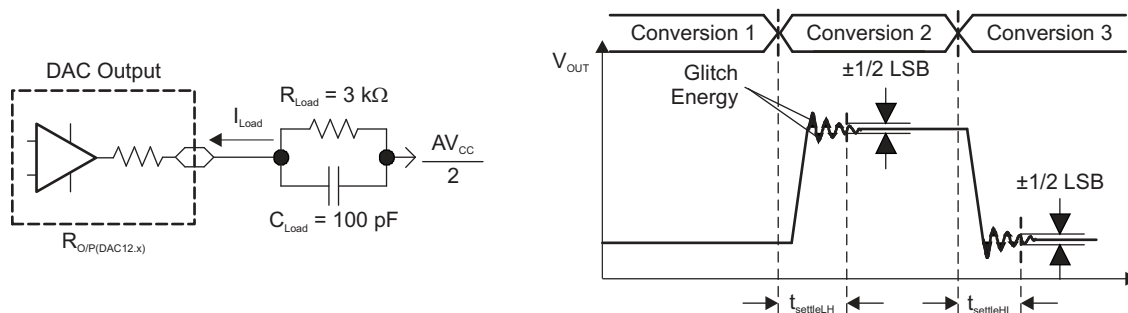
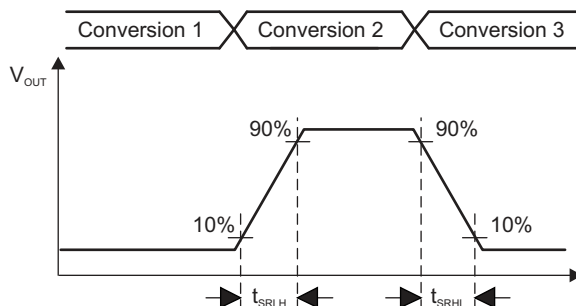

Figure 5-19. Settling Time and Glitch Energy Testing
Figure 5-20. Slew Rate Testing
VREF = VCC, DAC12IR = 1 (see Figure 5-19 and Figure 5-20), over recommended ranges of supply voltage and operating free-air temperature (unless otherwise noted)
- (1) RLoad and CLoad connected to AVSS (not AVCC/2) in Figure 5-19.
- (2) Slew rate applies to output voltage steps ≥ 200 mV.